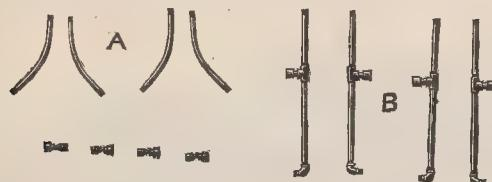

Fig. 219
**Tomato Spraying Attachment, FIG. 219.**—In further development of our Sprayer, we have met a demand for devices for spraying tomatoes as shown herewith. To make use of these it is necessary to have sprayer equipped with tongue, spraying one or two rows, the number depending on the sizes of the vines.